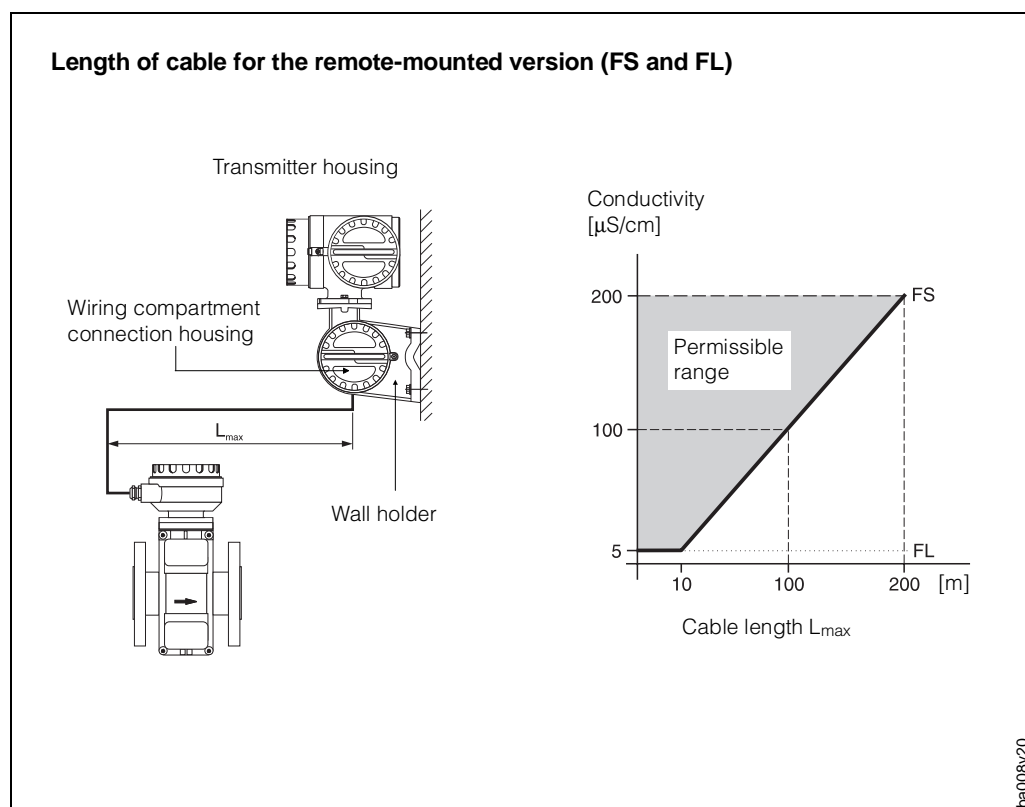

Fig. 24
- The permissible length of cable L_{\max} between the sensor and the transmitter at a distance of >10 m is governed by the conductivity of the medium (Fig. 24).